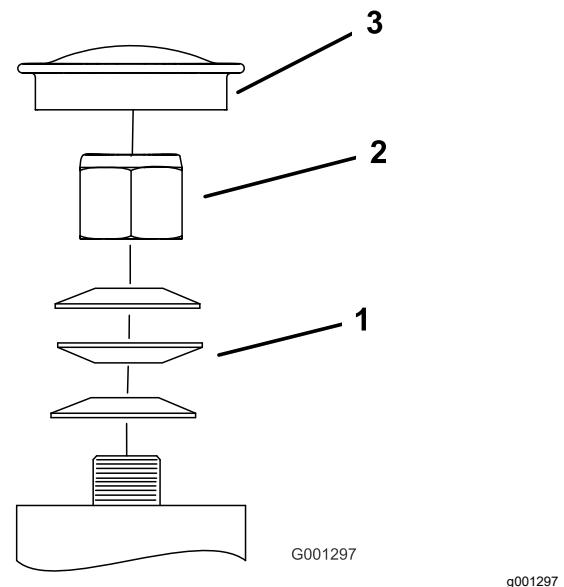

Figure 60
3. Remove the dust cap from the caster and tighten the locknut (Figure 60).
4. Tighten the locknut until the spring washers are flat, and then back off a 1/4 turn to properly set the preload on the bearings (Figure 60).
5. Install the dust cap (Figure 60).